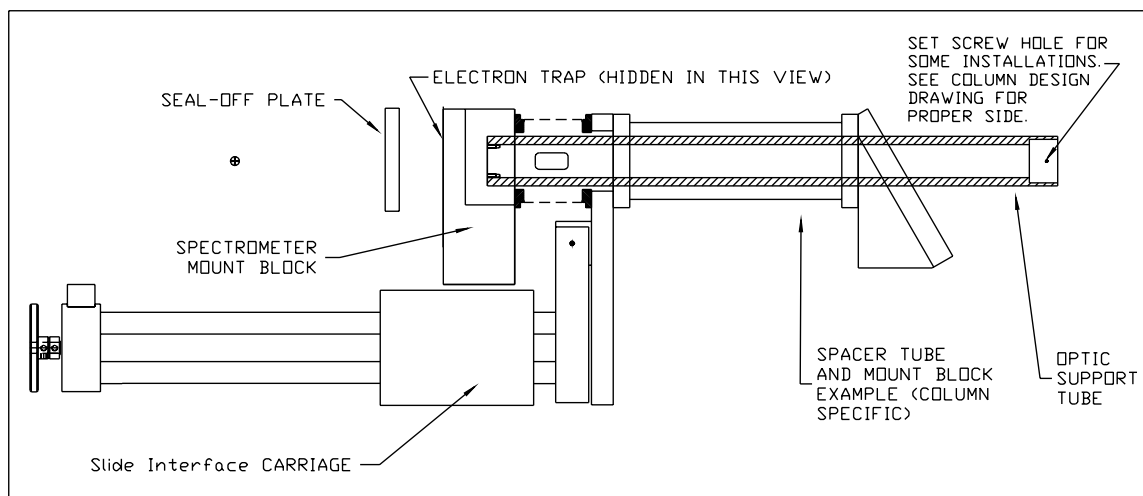

Figure 7-1: Slide Interface Example
Refer to *Figure 7-1*.
7. Install the **Seal-Off Plate** on rear of the **Slide Interface** using 4 M5 SHCS provided (See *Figure 7-1*).